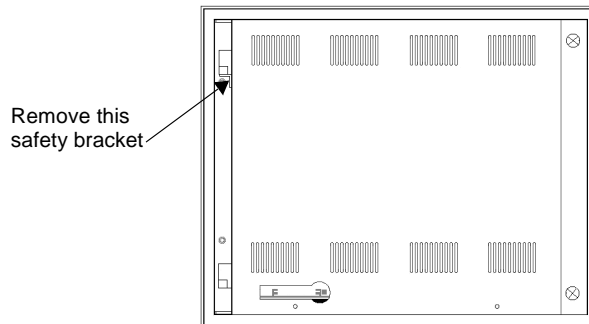

Figure 4: Removing the Safety Bracket
8. Remove the safety bracket below the upper hinge of the backshell by removing the screw that holds the bracket in place. This bracket is shown in Figure 4 on page 4.